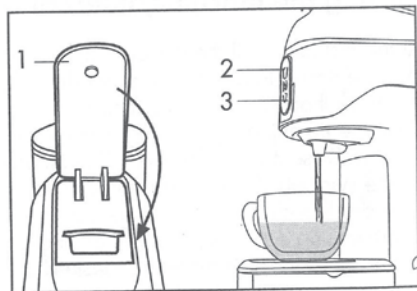

Fig. 8
- Completely close the lever (1), press a dispensing button (2-3) depending on the model and according to taste, and press it again to stop dispensing when the desired quantity of coffee or beverage is reached (Fig. 8). In case of difficulty in closing the lever, completely open it and close it again.
- To prepare a long coffee (American style) press the dispensing symbol (3) and, after having prepared the espresso coffee and ejected the empty capsule, dispense the desired amount of hot water.
- To extract the capsule, slowly lift the lever (1). If the capsule is not ejected, repeat the operation or press the dispensing symbol (2) and lift the lever (1) at the same time.